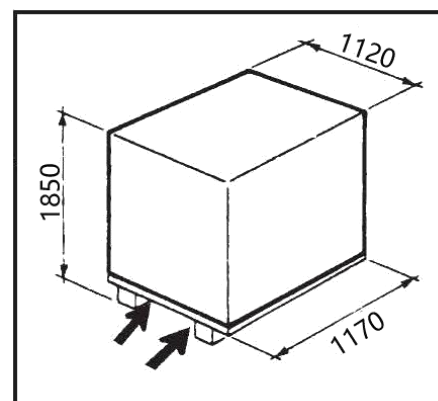

Figure 3
- The packaged machine must be moved by a forklift with the corresponding lifting capacity. Refer to Figure 3 for the insertion direction of the car.